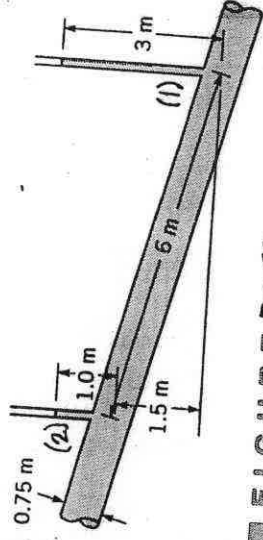

FIGURE P5.73
5.73 An incompressible liquid flows steadily along the pipe shown in Fig. P5.73. Determine the direction of flow and the head loss over the 6-m length of pipe.